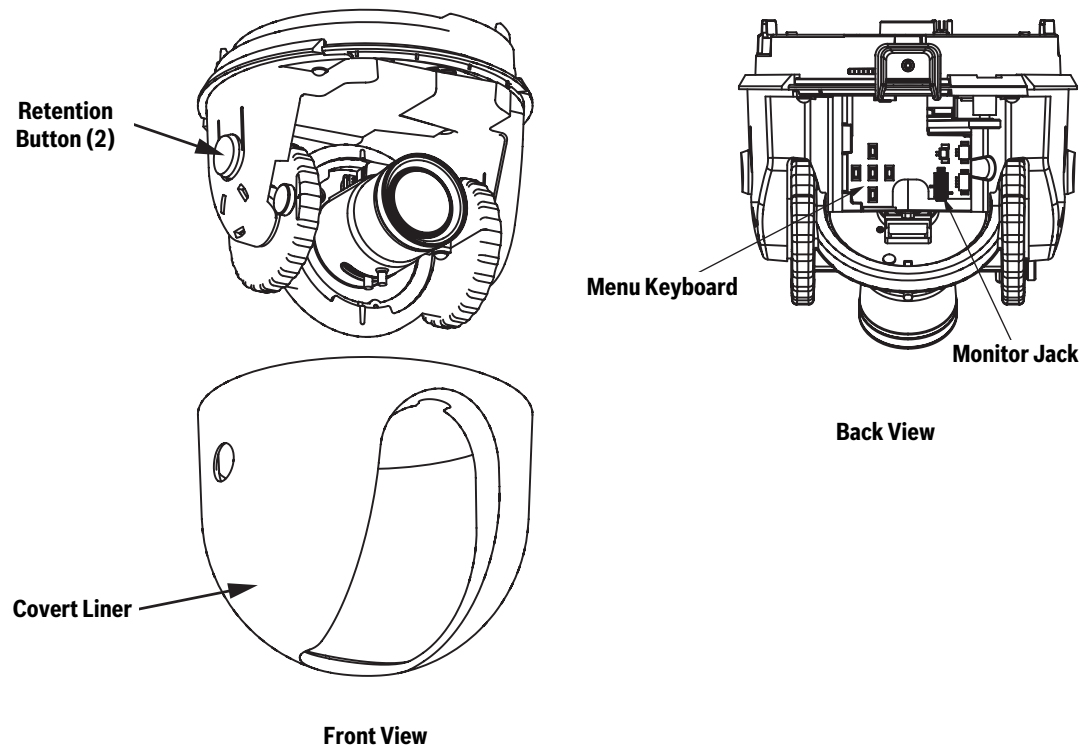

Fig. 2.1 100 Series Camera Module
2. Press and hold the two retention buttons on each side of the camera module and then pull off the covert liner. See *Figure 2.1* below.